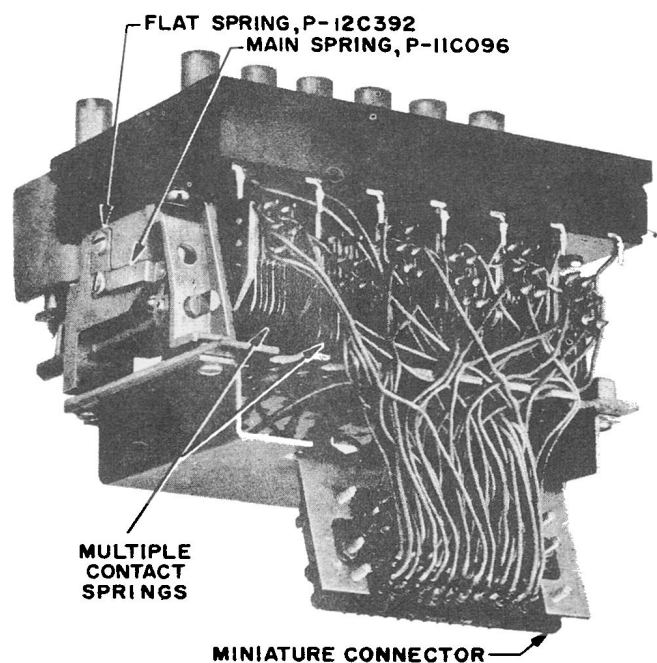

Fig. 9 — Originating Key, Side View
3.18 The 700E originating key is used in 112A key equipment installations. The contact springs and wiring are adequate for telephone wiring plan use. Multiple contact springs and one lamp socket per pickup key are wired to a miniature male connector (Fig. 9).